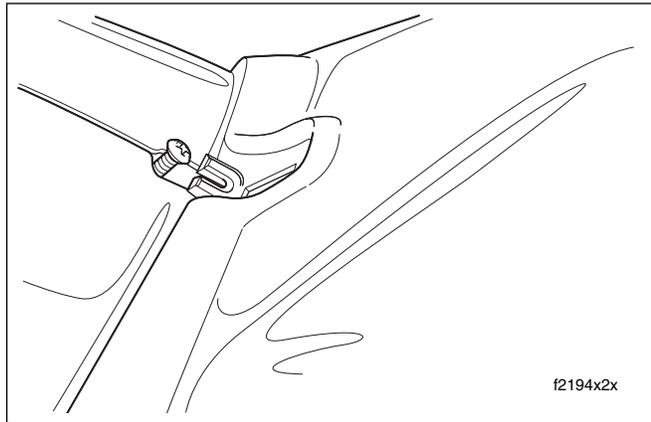

Figure 2-186. Remove Screw From Slot in Wind Deflector
- Loosen Phillips screw at front of wind deflector (but do not remove). Reaching inside the headlamp nacelle, release screw head from slot in tab and then draw screw assembly down and out through headlamp nacelle. See Figure 2-186.
7. Holding screw assembly, reach inside headlamp nacelle and insert head of Phillips screw up through opening to engage slot in tab at front of wind deflector. See Figure 2-186. Tighten screw to 10-20 **in-lbs** (1.1-2.3 Nm).